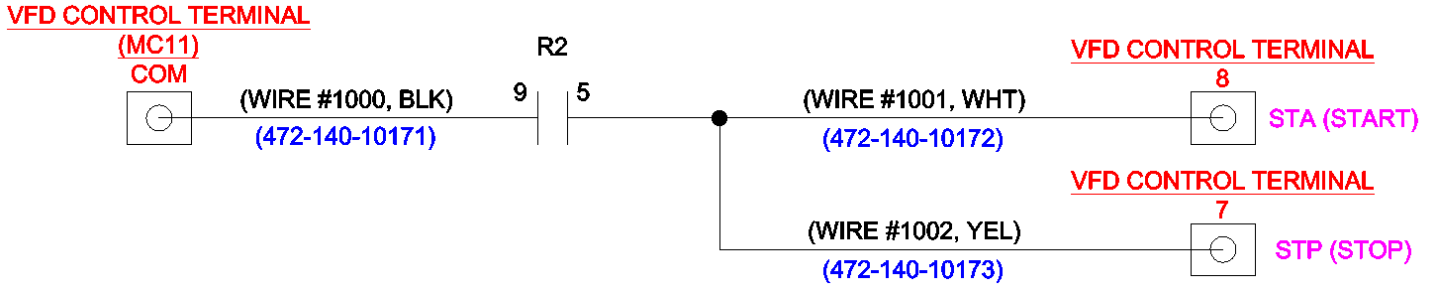

Figure 22: MC11 Relay (R2) Contact diagram
6.5.4 **Connect** pre-fabricated wiring (472-140-10171, 472-140-10172, & 472-140-10173) to Relay R2 contacts from MC11 Control Terminal for Start and Stop signals. See *Figure 22* for MC11 wiring diagram.